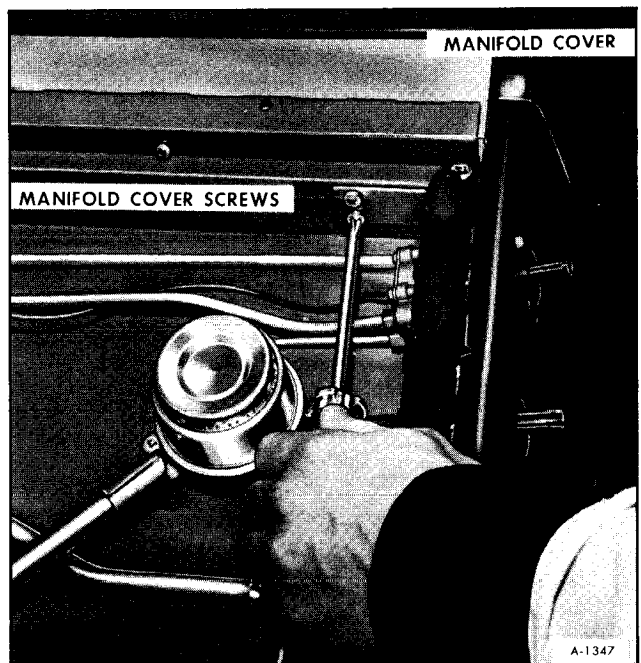

Figure 7—Removing Manifold Cover Screws (Upper)
4. Remove manifold cover by disconnecting light switch, (if so equipped) and removing six screws (two at each side and two at bottom) (See figures 7 and 8).
4. Remove manifold cover by disconnecting the light switch (if so equipped), and removing the six screws holding the cover (two at each side and two at the bottom of the cover) (See figures 7 and 8).